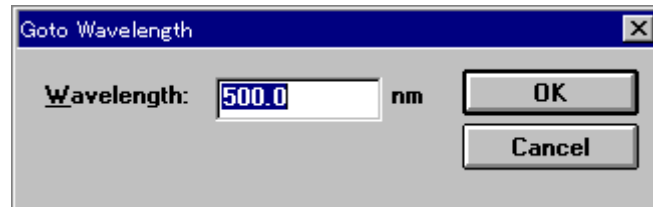

Figure 4.16 [Goto Wavelength] dialog box
- <Goto WL...> Moves the wavelength of the spectrophotometer to a set wavelength (see Fig. 4.16).